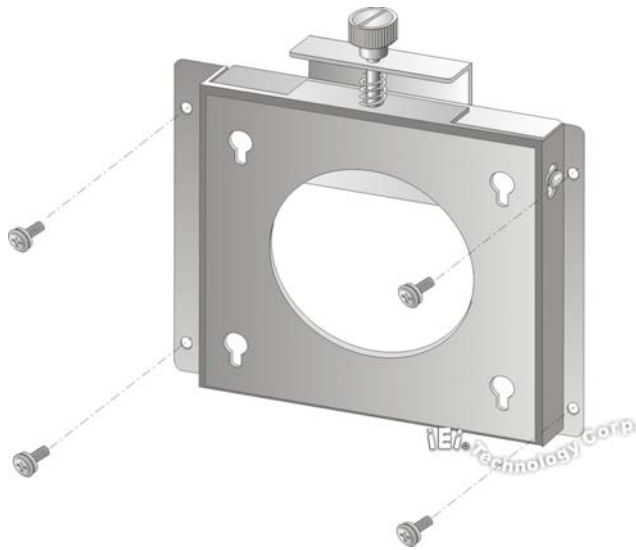

Figure 3-21: Wall-mounting Bracket
Step 5: Secure the mounting-bracket to the wall by inserting the retention screws into the four pilot holes and tightening them (Figure 3-21).